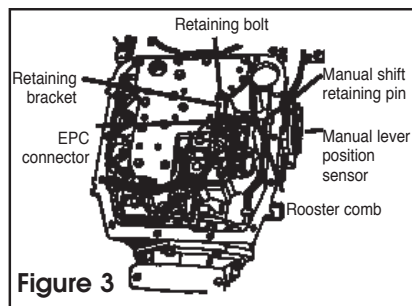

Figure 3
1. To Remove: Remove two 8 mm bolts retaining manual lever position sensor (MLPS) to case. Remove MLPS from manual shaft (Figure 3).